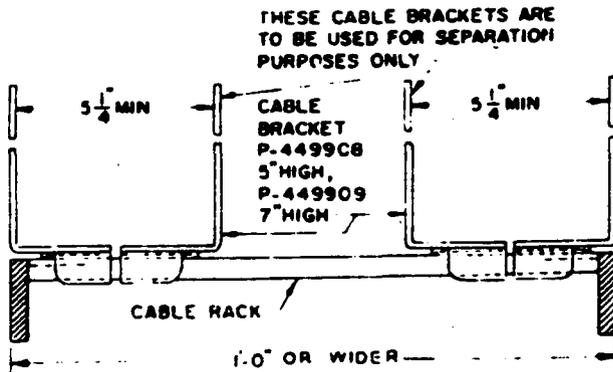

FIG. 2 SINGLE CABLE RETAINING BRACKETS ON CROSS STRAPS (PAR. 3.11)
- (a) Where additional brackets are necessary to separate two runs of cable on the same rack as shown in Figure 2.